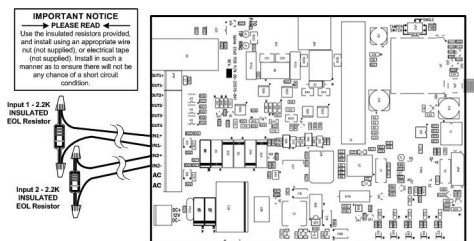

FIGURE 5:
17. The 4550-CF has two EOLR supervised inputs that report to the central station when activated. These inputs are disabled in the default state and must be enabled via the Dealer Web Site. Two insulated EOL resistors are enclosed and only those insulated EOL resistors have been tested by UL. Additionally, the resistor(s) must be fastened securely to the appropriate input, with no means to open circuit, short to an adjacent circuit or cause a risk of electric shock. See Figure 5 for further details.